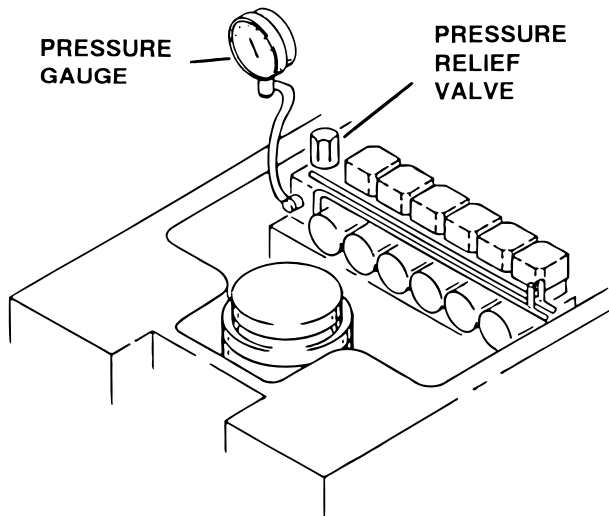

Figure 1-20.
1. Remove the blind cap and attach a hydraulic pressure gauge to the main oil galley using a 6mm plumbing bolt. See figure 1-20.